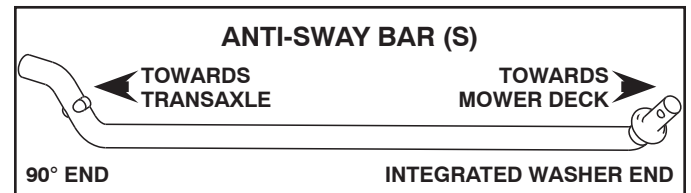

Fig. 9
## 5. INSTALL ANTI-SWAY BAR (S) (IF EQUIPPED) (See Fig. 9 - 11)